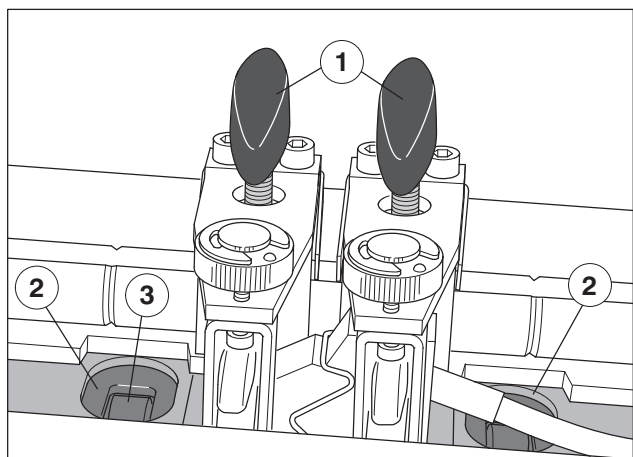
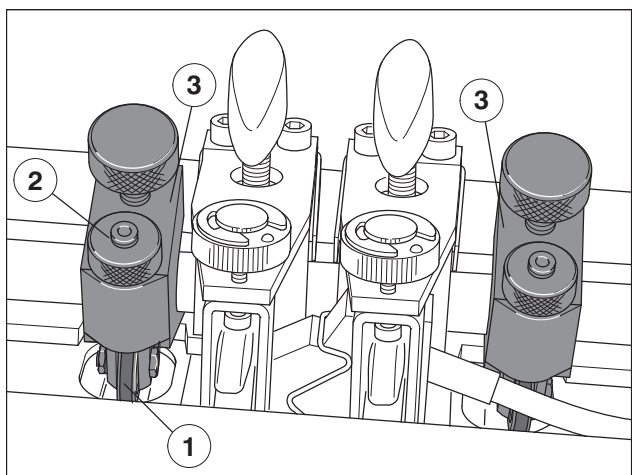

Fig. 52 Standard forwarding rollers
Fig. 55 Printing pressure of the small size forwarding rollers
3. Loosen the tommy bar screws (Fig. 52/1) and place the standard forwarding rollers in the center position on the shaft.
4. Tighten both tommy bar screws (Fig. 52/1) to fix the positions of the forwarding rollers.
The small size forwarding rollers are centered in the recesses in the guide plate (Fig. 52/2).
2. Rotate the press until 100° is displayed. The forwarding rollers (Fig. 55/3) are now lifted from the transport roller.
3. Slide a strip of printing material from the printing material to be processed between the transport roller (Fig. 52/3) and the roller (Fig. 55/1) of the small size forwarding rollers.
4. Turn the knurled nut (Fig. 55/2) until the roller (Fig. 55/1) slightly touches the strip of printing material:
5. Now turn the knurled nut (Fig. 55/2) 1/4 revolution counterclockwise.